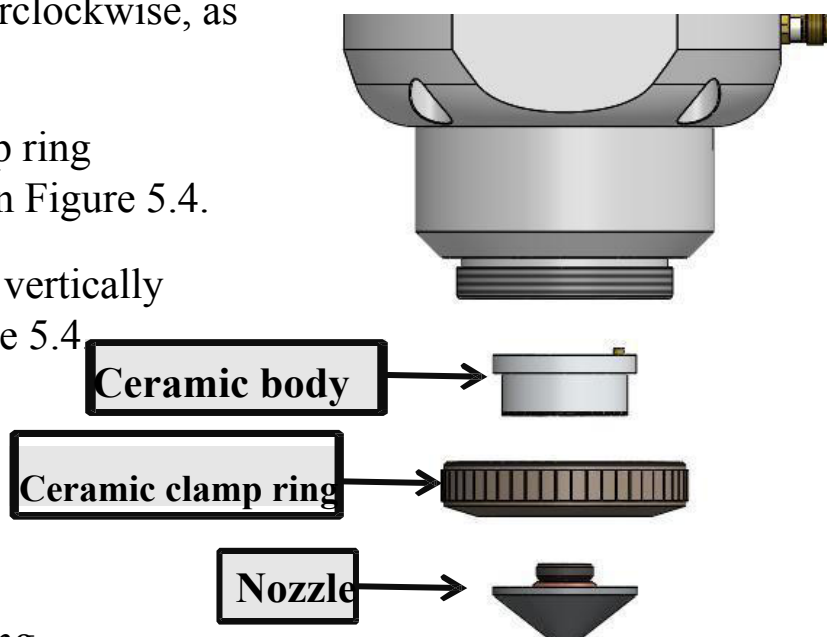

Figure 5.4
- ① Dry and clean auxiliary gas should be used when cutting. If there is water, oil and other impurities in the gas, the mutations may occur at working clearance, even causing work disorder of the sensor. It is suggested to use high purity oxygen and configure the gas dryer, oil-water separator and other devices.
- ② The sensor should be cleaned after being defaced, with clean and dry cotton wipers. Do not use liquid to clean the cutting head and ceramic, and then connect to the proper assembly after cleaning.
- ③ The ceramic body can be replaced after being damaged. Initialization of electrical system together with the amplifier should be conducted through a reset operation.
- ④ Prescriptive cutting nozzle should be used because the shape and size of it would directly affects the characteristics of the sensor.
- ① Remove the nozzle counterclockwise, as shown in Figure 5.4.
- ② Remove the ceramic clamp ring counterclockwise, as shown in Figure 5.4.
- ③ Remove the ceramic body vertically downward, as shown in Figure 5.4.